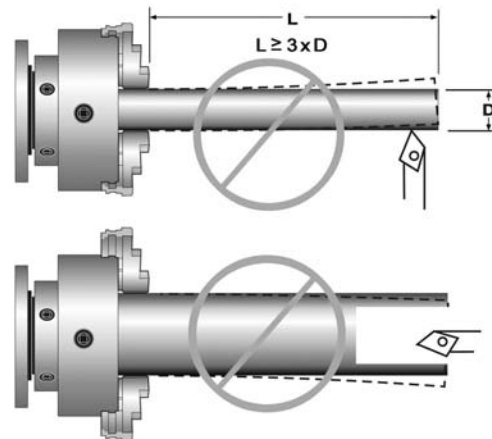

Figure 20 – Improper setups
- Avoid long workpiece extensions, as parts may bend or fly off (see figure 20). Use rests or the tailstock for support.